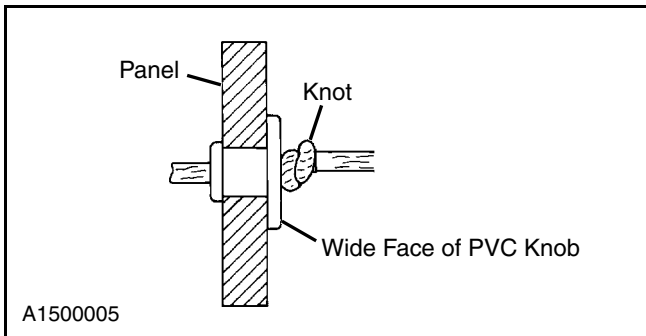
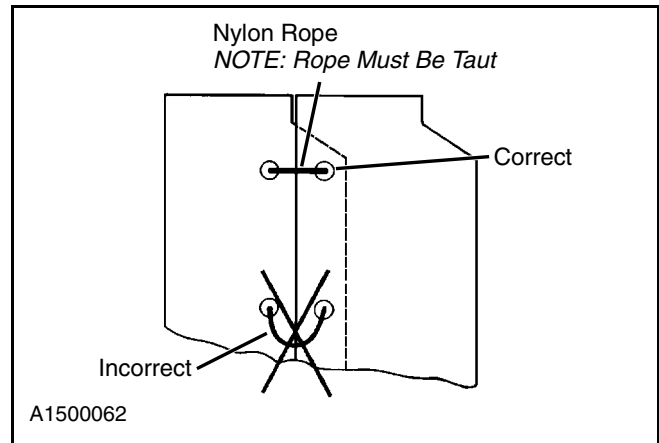

Figure 26
Figure 27
10. Hold the rope taut and tie a knot close to the wide face of the second knob. There should be very little slack in the finished rope tie assembly. (See Figure 26 and Figure 27.)